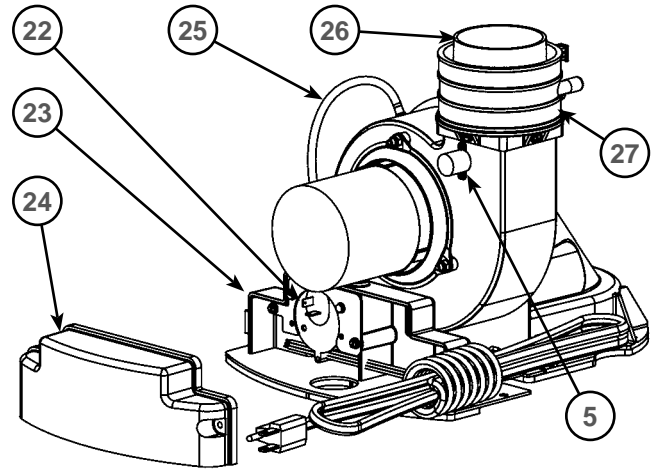

Figure 9
- 5 Limit Switch (see Figure 9)
- 21 Blower with Power Cord (see Figure 9)
- 22 Air Switch (inside box) (see Figure 9)
- 23 Junction Box (see Figure 9)
- 24 Junction Box Cover (see Figure 9)
- 25 Air Tubing (see Figure 9)